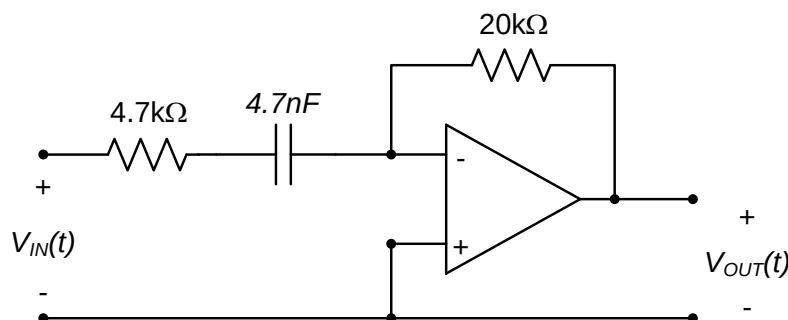

Figure 1. High-pass filter circuit.
Calculate the frequency response for the circuit shown in Fig. 1 and sketch the straight-line approximation to the circuit's Bode plot. Label the plot to show the high frequency gain and the cutoff frequency.
a. Construct the circuit shown in Fig. 1.
1. In the space below, provide the frequency response you calculated for the circuit of Fig. 1. (5 pts)